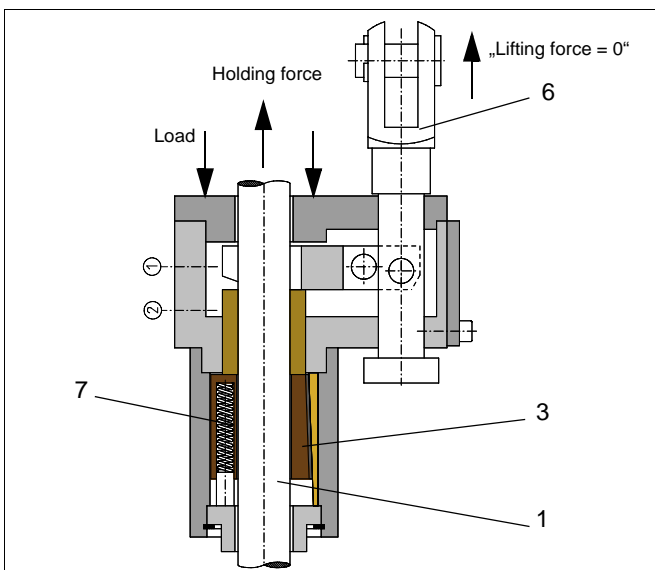

Fig. 3: Safety Catcher KRM having caught the load
The action of the springs then causes the clamping jaws (3) Fig. 3 to clamp the shaft (1) Fig. 3 firmly, thus securing the load.
The full clamping force is built up as the Safety Catcher KRM together with the falling load is moving along the shaft. Due to the self-intensifying static friction at the shaft, the clamping jaws (3) Fig. 3 are drawn into the clamping position at their stops (7) Fig. 3 after having moved the distance "e" (approx. 5 to 15 mm, depending on the design). This movement is illustrated as phase A in the force-path diagram.